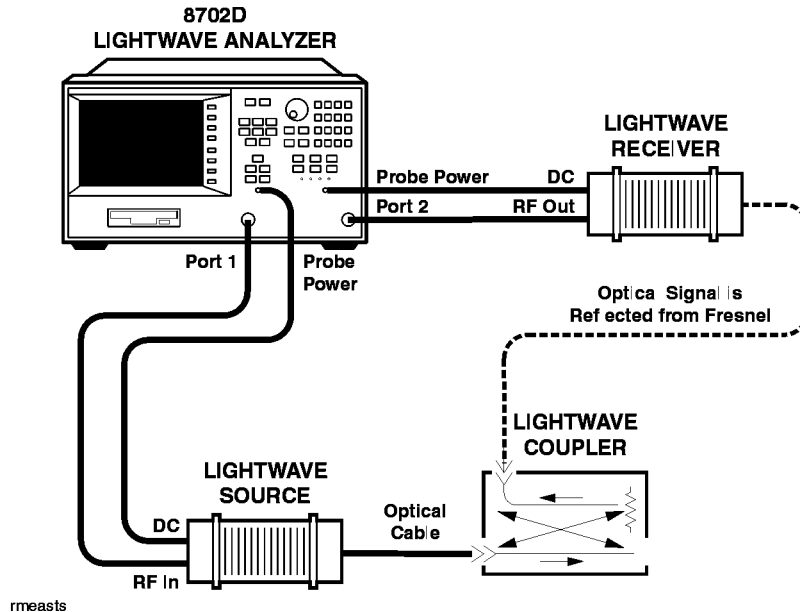

Figure 13-5. Reflection Measurement Test Setup
- 1 Connect the equipment as shown in Figure 13-5.